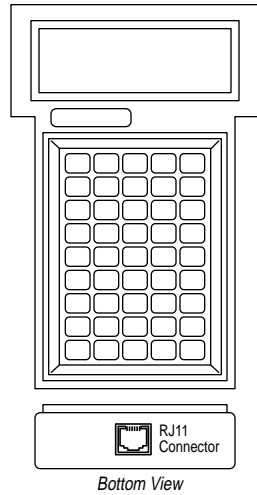
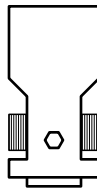
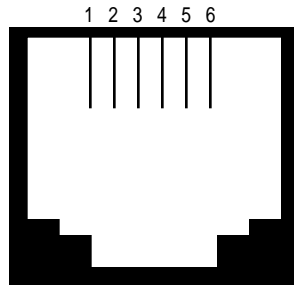

Figure 1
Figure 3
Figure 6
- HT100 Hand Held Terminal (Figure 1)
- Modular adapter; RJ11 to DB9 (Figure 3)
RJ11 Retracting / Reversing six conductor cable. Connects HT100 (Fig. 1) to the modular adapter (Fig. 3).
Battery charger. Plug the output connector into the modular connector (Fig. 3). Plug the main body of the unit into 120 Vac. This charger provides 6V DC @ 400 mA.
DDA/STI Interface cable. Connect the Modular adapter (Fig. 3) to the EIA485 network. Observe markings on alligator clips when connecting to a DDA/STI network.
The six-conductor RJ11 modular connector is located at the base of the HT100 (refer to Figure 1). This is where all electrical connections to the unit are made -- refer to Figure 6 for the RJ11 pin outs.